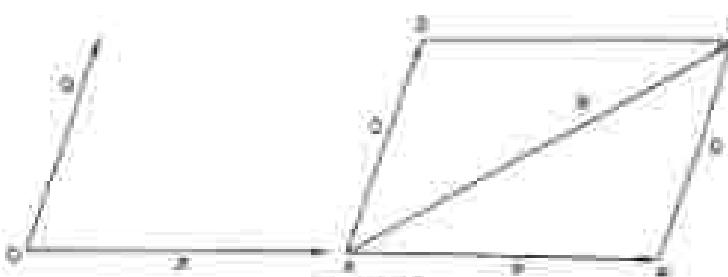

Fig. 1.18
- In Fig. 1.18 the parallelogram ABCD is completed with sides AB and BC of the triangle ABC. Side AD is equal and parallel to BC. So, force Q is also represented in magnitude and direction by AD. Now, the resultant of P (represented by AB) and Q (represented by AD) is represented in magnitude and direction by the diagonal AC of the parallelogram ABCD. Thus, the resultant of P and Q is represented in magnitude and direction by the third side AC of the triangle ABC taken in the reverse order.